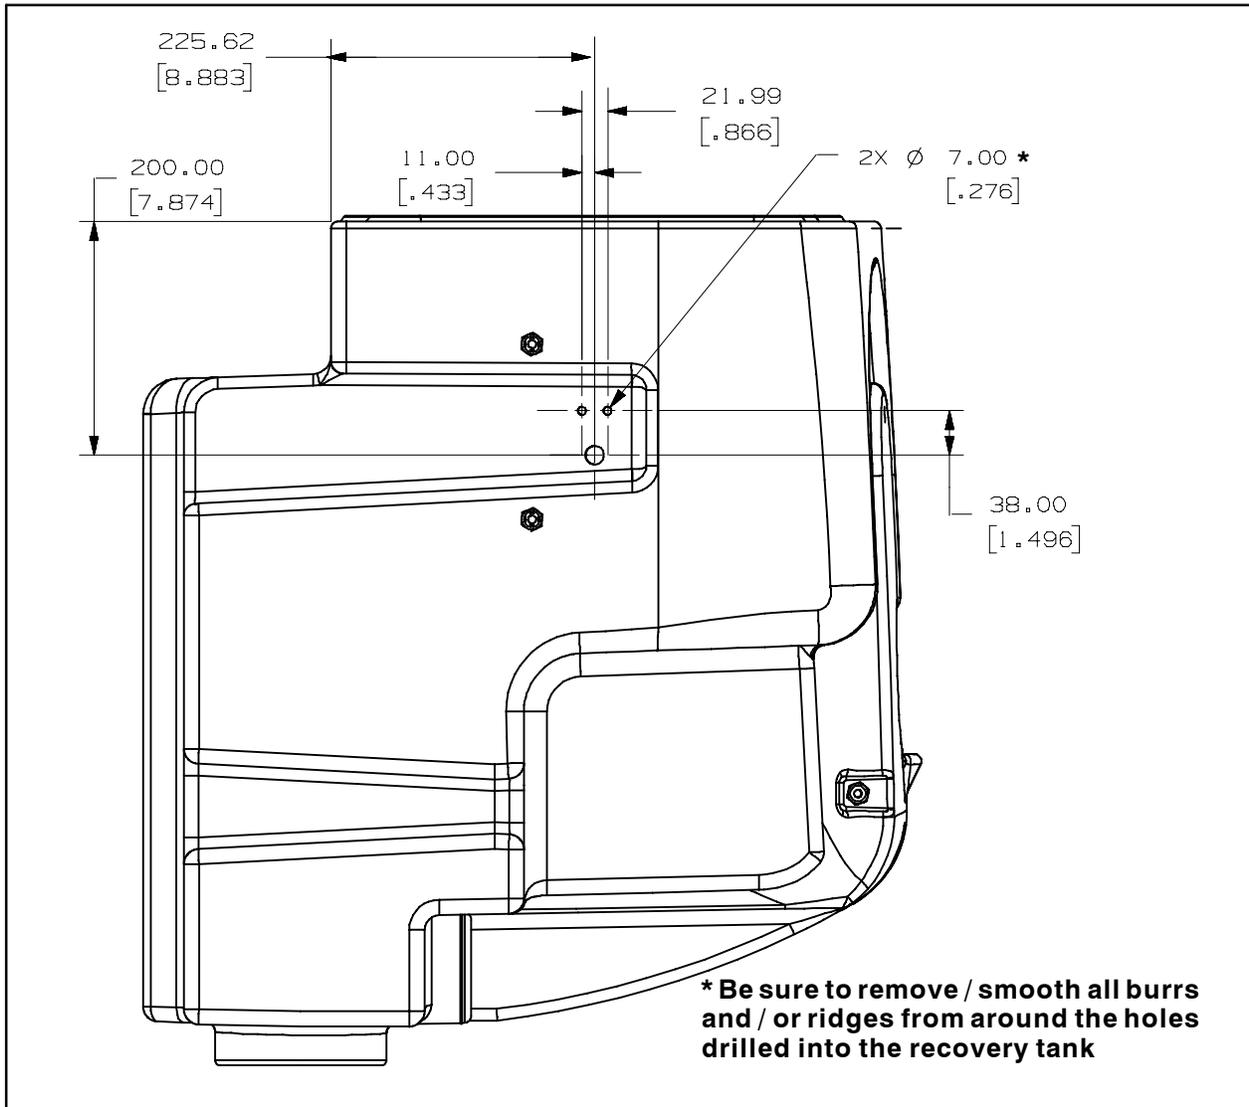

FIG. 4
4. Drill two holes through the recovery tank. Refer to Fig. 4 for sizes/locations of holes.
5. Remove/smooth all burrs and/or ridges from around the two holes drilled into the recovery tank in the previous step. Refer to Fig. 4.